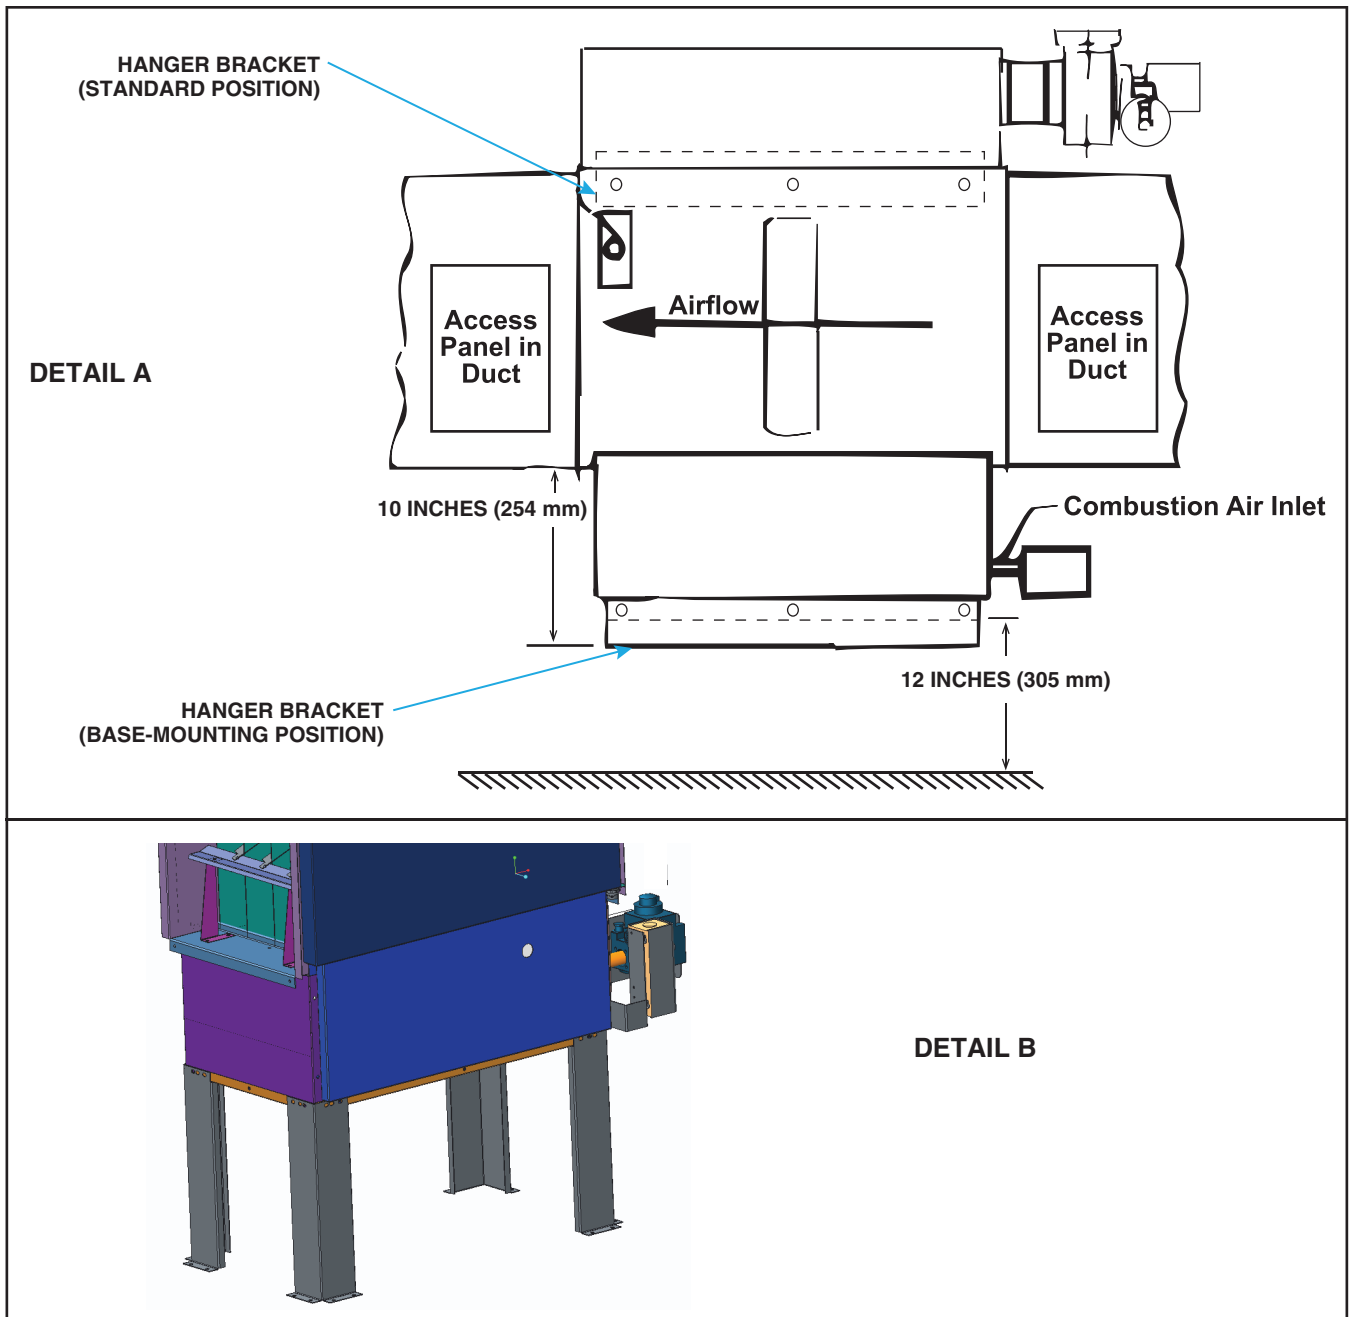

Figure 10. Base-Mounting Single Furnace
1. Remove two hanger brackets from their standard positions and install them at their base-mounting positions as shown in **Figure 10**, DETAIL A.
2. Install four leg brackets (see **Figure 10**, DETAIL B) from base-mounting kit (PN 1034022). Secure leg brackets with screws provided in existing holes in front. Drill new leg bracket holes in rear.